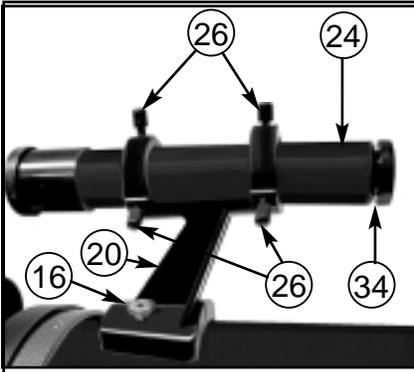

Fig. 1a: Model 114 EQ-D: Viewfinder assembly.
Your Jupiter 114 EQ-D comes to you packaged almost entirely pre-assembled. (References in this section—e.g. (6)—are to **Fig.1a - 1e** unless otherwise specified.)